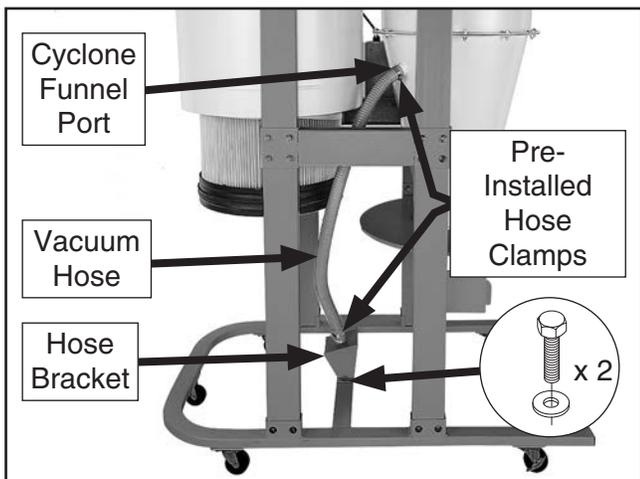
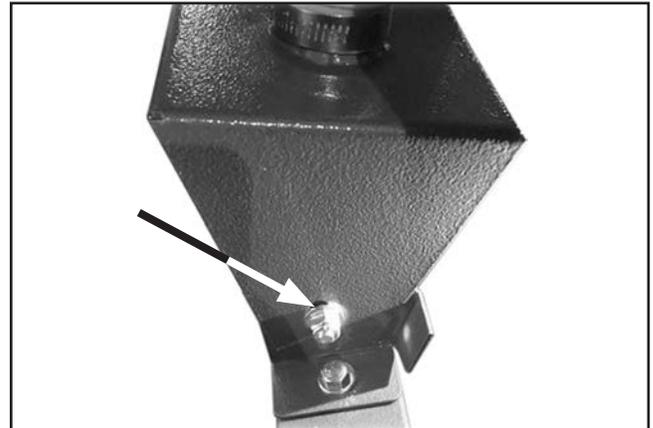

Figure 33. Vacuum hose connected to hose bracket and cyclone funnel port.
Figure 34. Location of pre-installed $\frac{5}{16}$ "-18 lock nuts that secure angle of vacuum hose bracket (1 of 2).
34. Attach vacuum hose bracket to stand base using (2) $\frac{5}{16}$ "-18 x $\frac{3}{4}$ " hex bolts and (2) $\frac{5}{16}$ " fender washers (see **Figure 33**).
35. Install 1 $\frac{1}{2}$ " vacuum hose onto cyclone funnel port and vacuum hose bracket, then tighten pre-installed $1\frac{3}{4}$ " hose clamps on each end of vacuum hose to secure hose (see **Figure 33**).
36. Adjust angle of vacuum hose bracket so it appears as shown in **Figure 33**, and then tighten (2) pre-installed $\frac{5}{16}$ "-18 lock nuts that secure angle (see **Figure 34**).